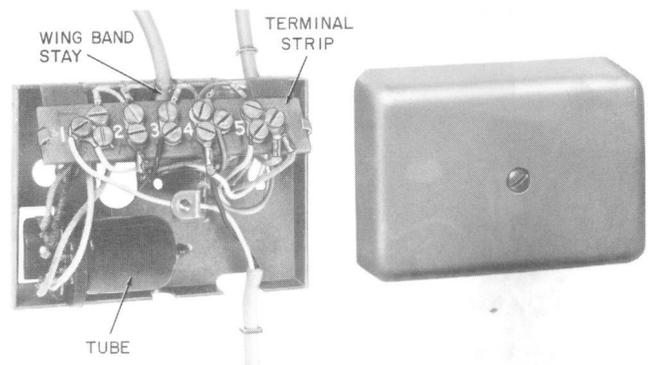
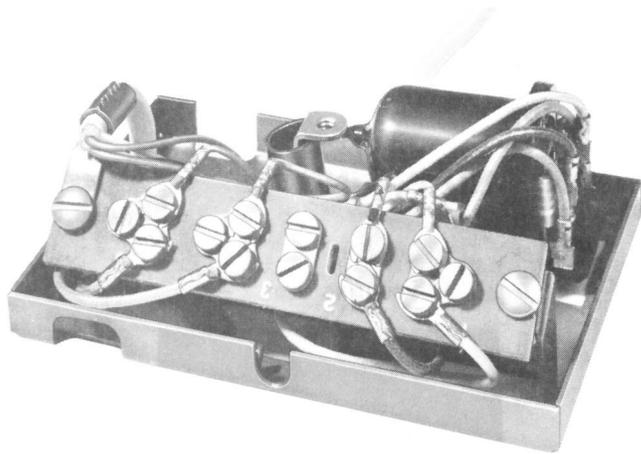

Fig. 2—74-Type Connecting Block with Wing Stay Band
Fig. 3—74-Type Connecting Block With New Cord Stay Arrangement and Screw-Mounted Terminal Strip
74-Type Connecting Block (Fig. 2, 3, and 4)
3.01 The 74B connecting block may be mounted on all types of surfaces. Backboards should be used only when mounting on damp walls and when use of a backboard will facilitate installation. Provision is made in the base of the connecting block for entrance of inside wiring and cords with winged stays (Fig. 2). Cords with loop stay-hooks are fastened under the cover screw or on terminal strip (Fig. 3). Terminate conductors of inside wire and cord in accordance with connection section for the telephone set.